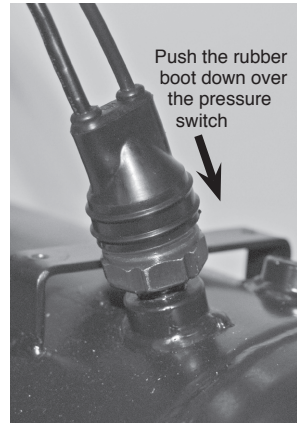

Fig. 9
WIRING COMPRESSOR (Fig. 7 through Fig. 9):
12. Push the rubber boot onto the pressure switch (Fig. 9).